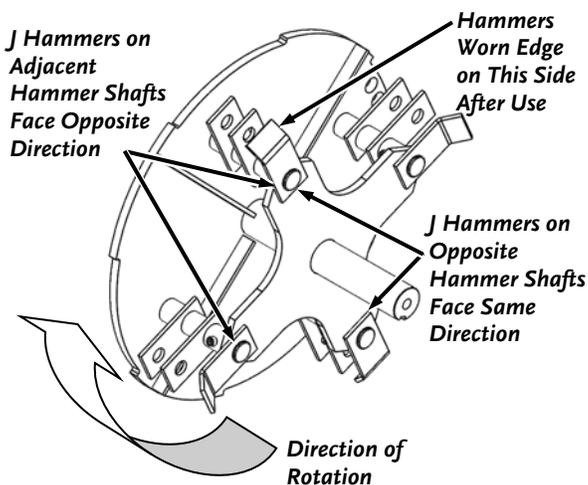

Figure 33
- Note:** There is 1 J Hammer and 2 Flat Hammers on each Hammer Shaft. J Hammers are oriented in the opposite direction of those on adjacent Hammer Shafts (**Figure 33**).
9. Repeat steps 4 through 8 for the other three sets of Hammers. Confirm that Hammer orientations alternate as shown in Figure 33. Correct them if needed.